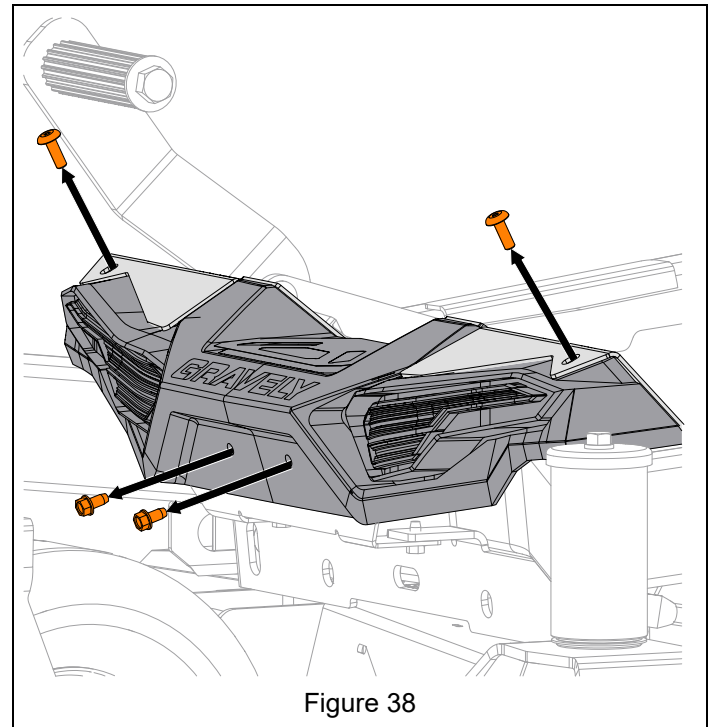

Figure 38
2. Remove four machine screws to remove headlight assembly. See Figure 38.